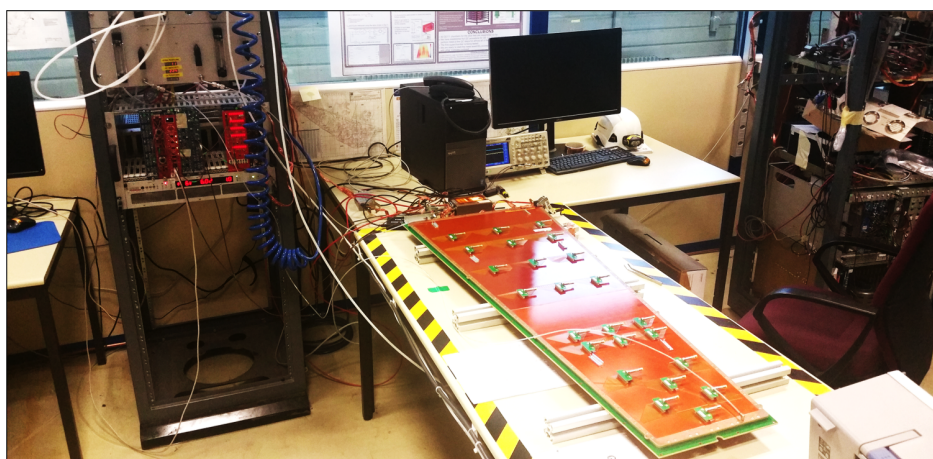

Figure 118: Chamber ready for QCs.
Step 11: The GE1/1 chamber is now ready for the next quality controls (Fig. 118).